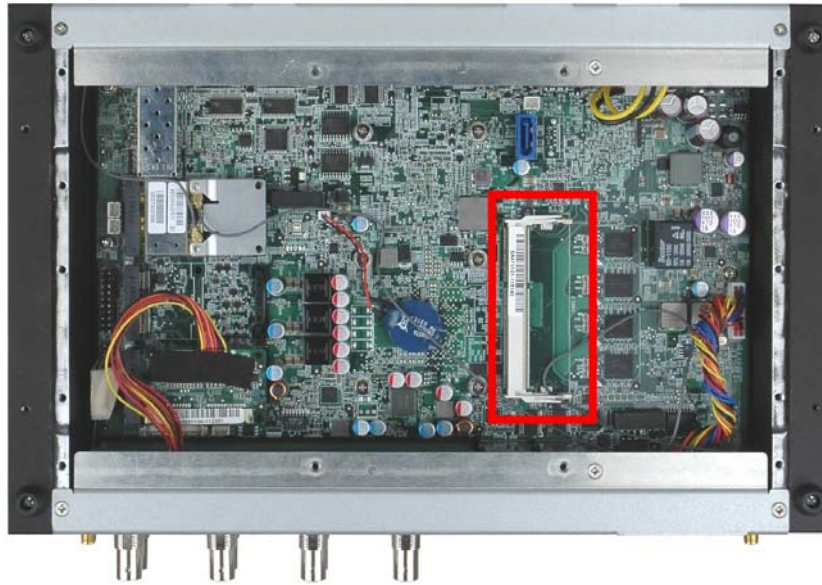

Figure 3-10: SO-DIMM Socket
- Step 3:** Locate the SO-DIMM socket on the motherboard (**Figure 3-10**).